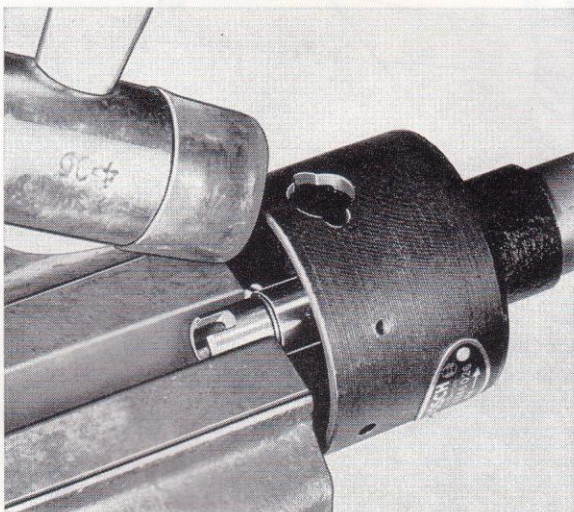

Fig. 106. Removing the circlip
3. Disconnect the springs for the centrifugal regulator and mark up how the breaker cam is located in relation to the distributor shaft. Secure the breaker cam in a vice with soft jaws. Carefully knock on the distributor housing with a plastic mallet (Fig. 106) until the circlip (5, Fig. 103) has released.